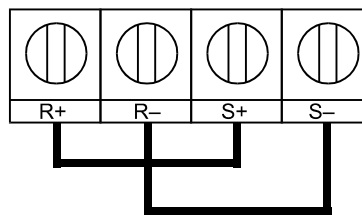

Fig. D.3 RS-485 Communication Connection
3. When using RS-485 communication, connect S+ to R+, and S- to R-, on the control circuit terminal board. See Fig. D.3 below.